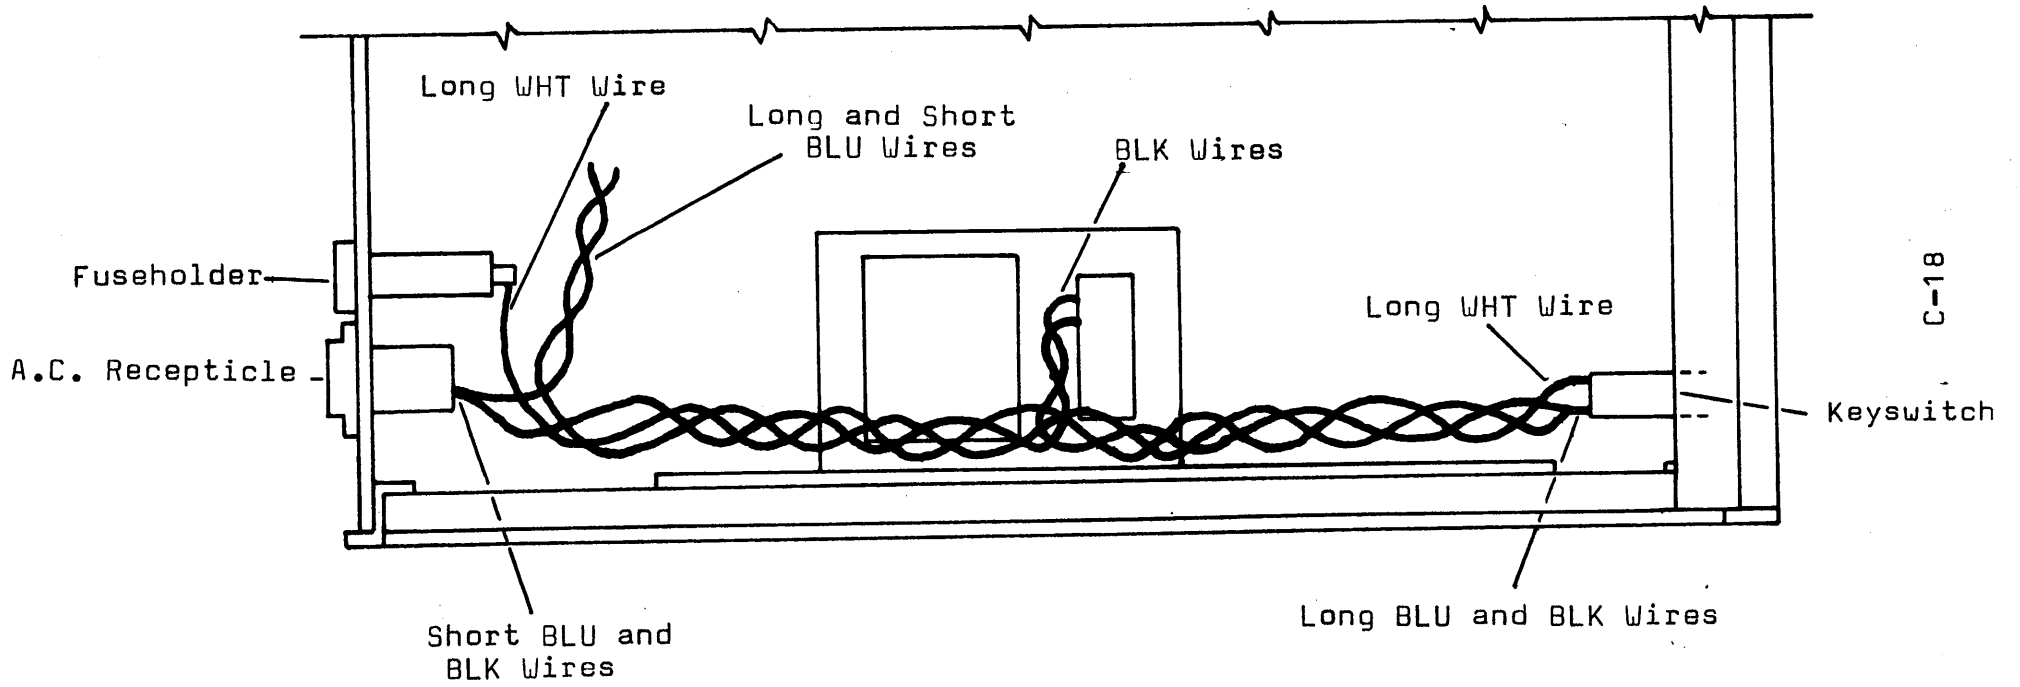

FIG. 9
- () Position the cabinet upside down as shown in Fig. 9.